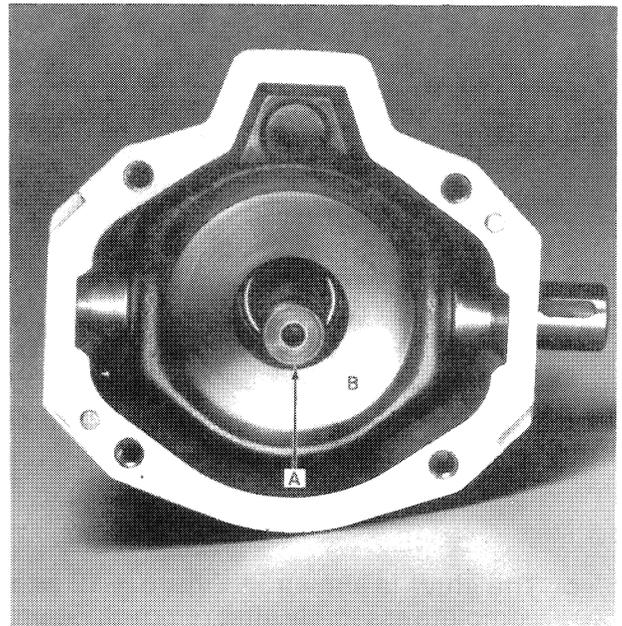

FIGURE 4-9
8. To remove pump shaft, A, Figure 4-9:
- 9. To remove cam plate, B, Figure 4-9: